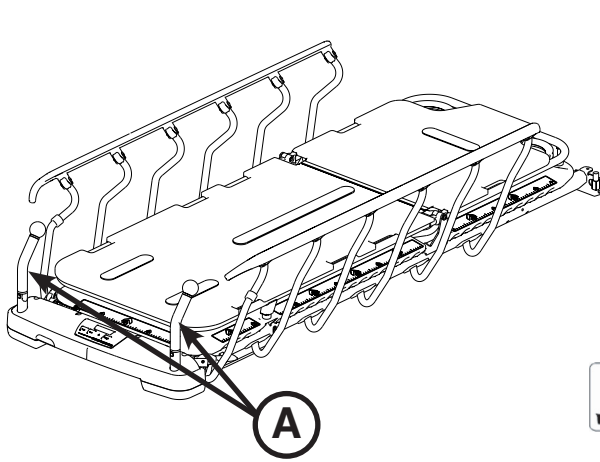

Figure 10.1: Foot End Push Handles Open
To use the push handles, pivot the handles (A) up and push down until they are locked into position (Figure 10.1).